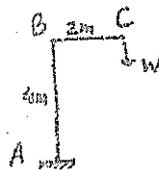

Figure 2 (X, Y)
3. Using Castigliano's theorems, determine the deflection at the free 'C' of the bent as shown in Figure 2.